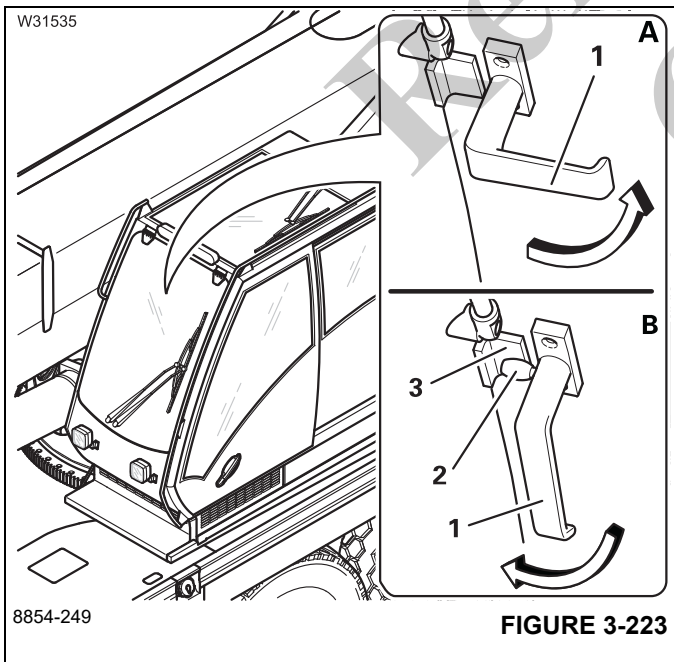

FIGURE 3-223
**Open Window (A)**
- Turn both handles (1), (Figure 3-223) inward.
**Close Window (B)**
- Turn both handles down – pegs (2) located behind the holder (3).